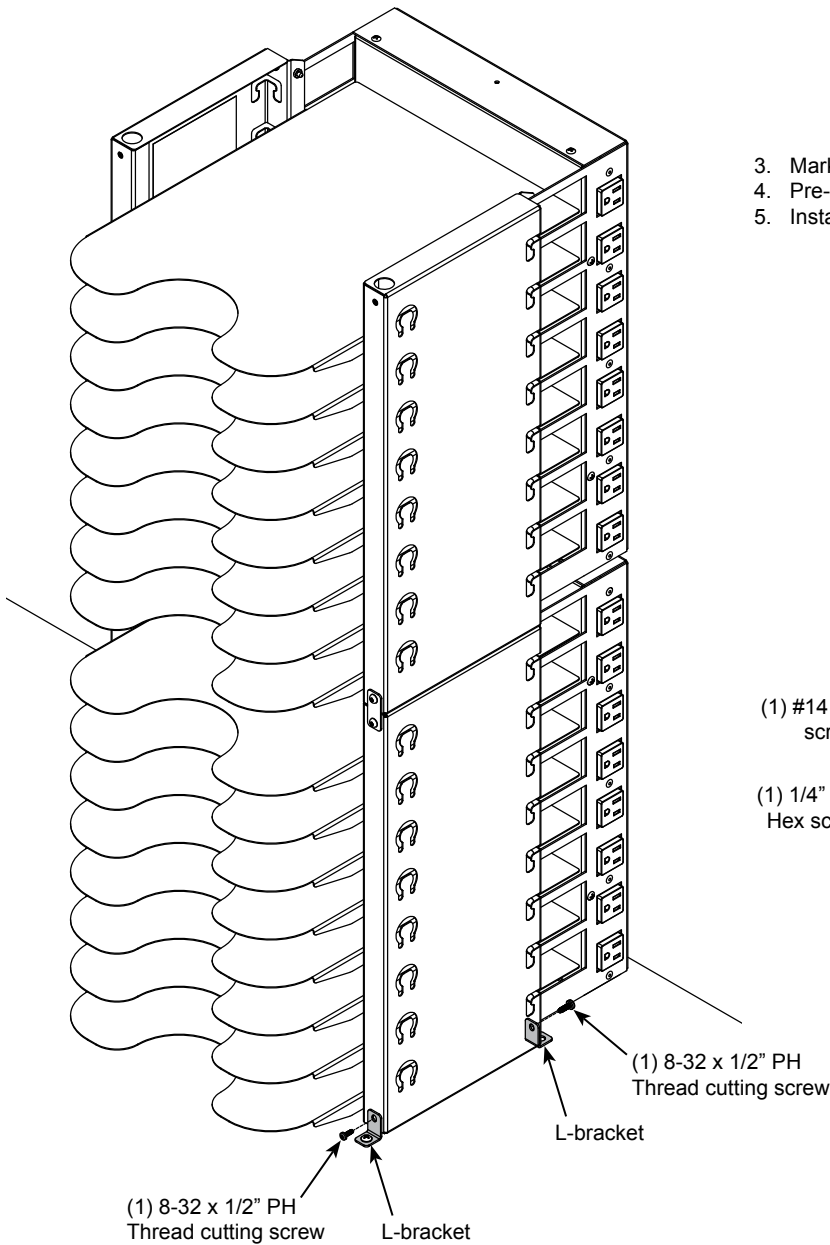

Figure 2.1
1. Install the (4) L-brackets to the unit as shown with 8-32 x 1/2" PH Thread cutting screws. **Figure 2.1, 2.2.** (Use slotted hole on bracket).